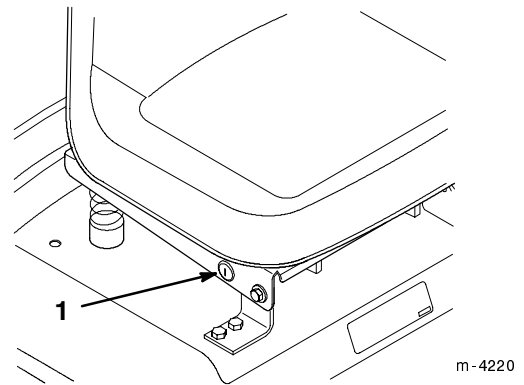

Figure 8
If you need to use the PTO while backing up, you can turn off this interlock feature using the KeyChoice switch located near the seat bracket (Fig. 8).
2. Insert the KeyChoice key into the switch (Fig. 8).